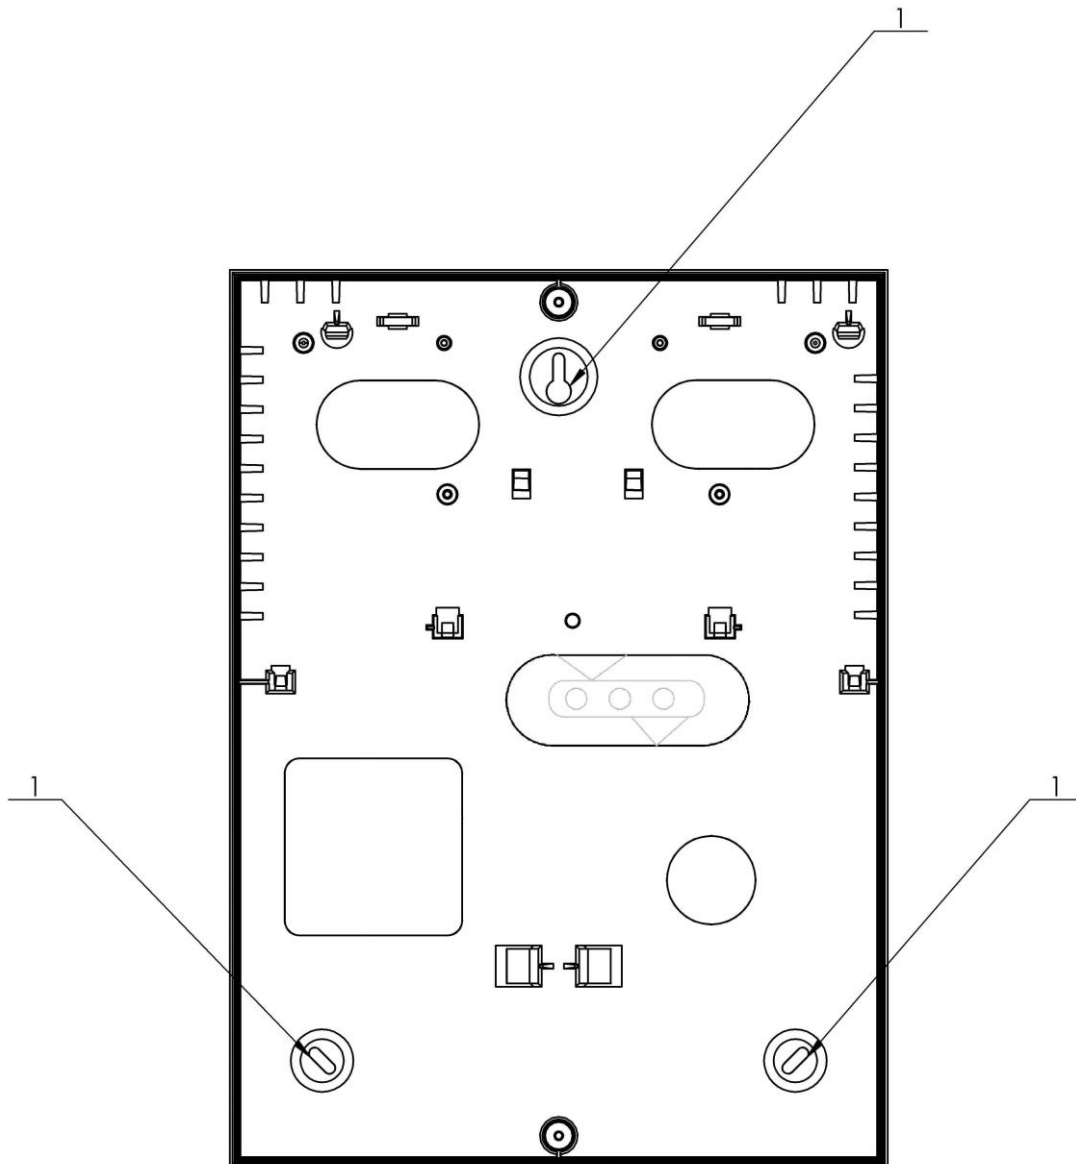

Fig.9
Put the panel's cabinet on the wall and mark the positions for the dowels (fig.9, pos.1).
- Take the signal and power lines through the dedicated openings (refer p.14.1.2) and mount the screws (fig.9 pos.1) and fix cabinet on the wall.